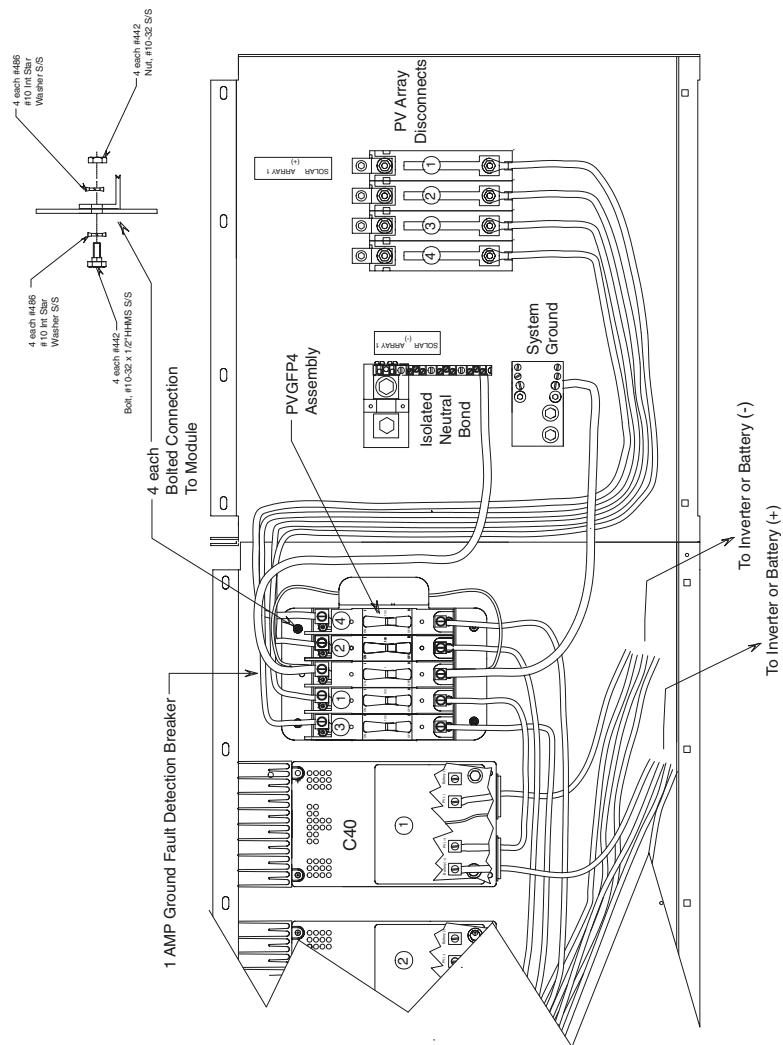

Figure 6
1. Mount the PVGFP unit to the left of the dc negative shunt, and next to the right-hand C40 controller. Use four 10-32 x 1/2" screws, star washers and 10-32 nuts (supplied) to attach the PVGFP unit to the Enclosure. Refer to Figure 6 for mounting location.
4. Connect a #6 AWG red wire from the lower terminals on the PV array disconnect breakers to the upper terminals on the PVGFP as shown in Figure 6.